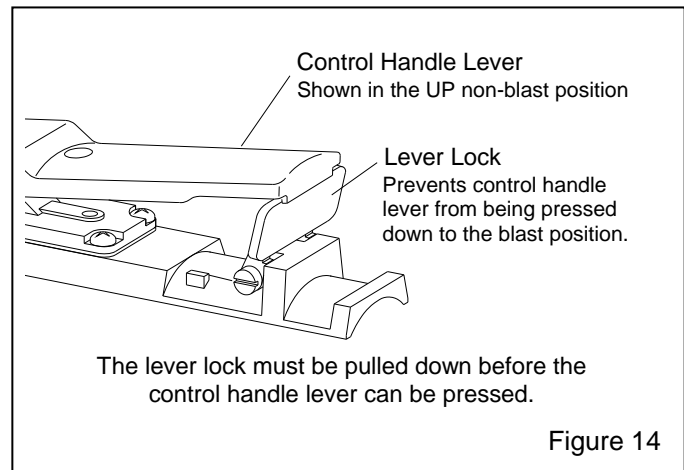

Figure 14
4.1.1.5 Make sure the control handle lever is in the up (no blast) position, as shown in Figure 14, and that the handle lever and safety lever lock move freely.